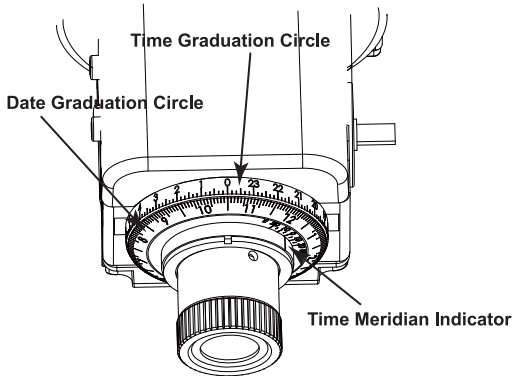

Fig 27
2. Then rotate the **Date Graduation Circle** to align Oct 31 to the 0 of the **Time Graduation Circle** and turn Eyepiece/Mounting Platform to align the **Time Meridian Indicator** to the 0 of the **Time Meridian Circle** (Fig 27). This is the date and time when the orientation of Polaris is directly below the north pole ( 6 o'clock ).